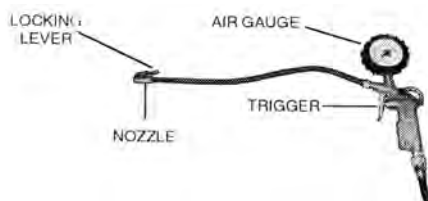

Fig.4
Press the trigger on the air gauge to release air from the nozzle. (Fig.4)
2. To inflate the tire, attach the air gauge nozzle (See Fig.4) to the tire valve stem with the locking lever in the "UP" position. Check the condition of the tire, and make sure the nozzle is pressed down completely over the threads of the valve stem.